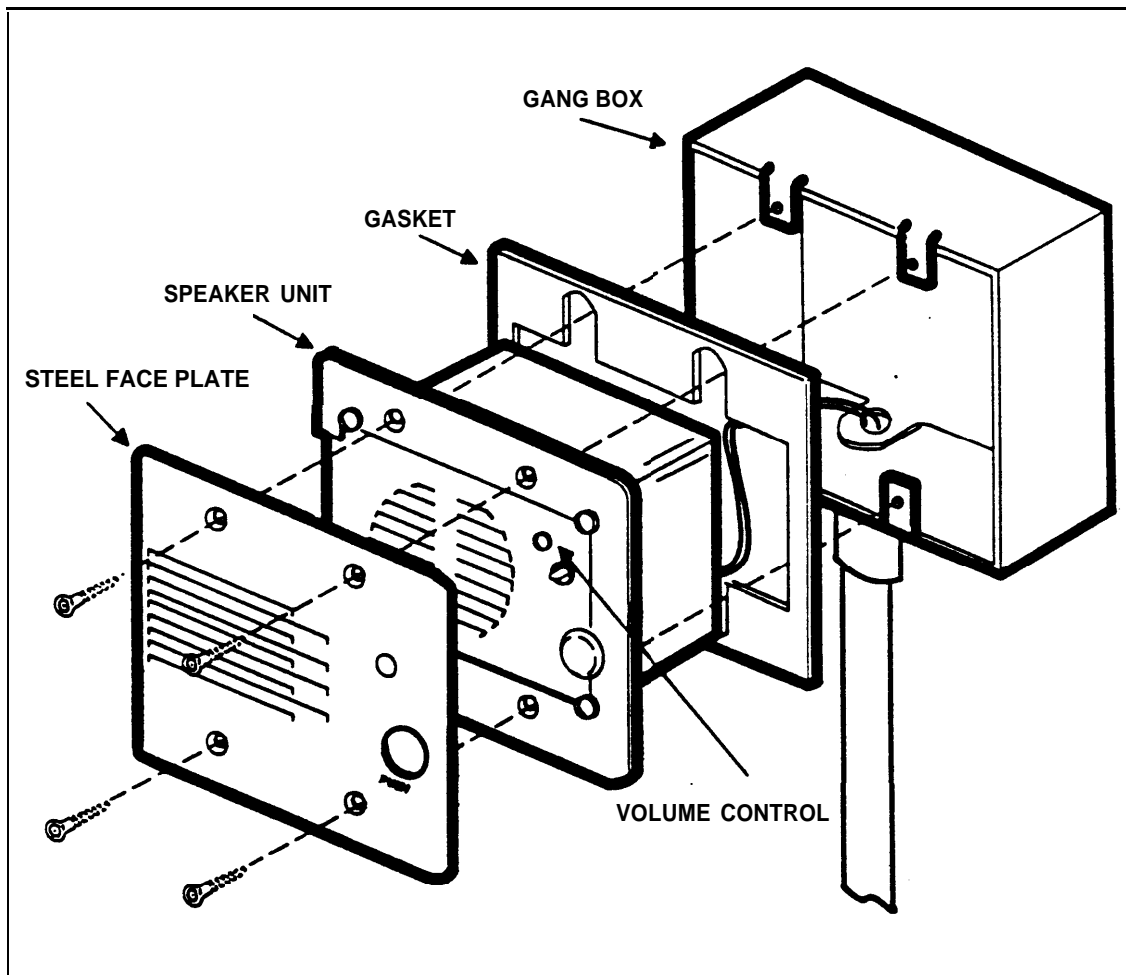

Figure 2-7. Attach PARTNER™ Plus Door Phone and Faceplate
8. Test the system by having an assistant call the designated extension number of the PARTNER™ Plus Door Phone. Adjust the speaker volume (Figure 2-7) to an appropriate level.
9. Secure PARTNER™ Plus Door Phone and faceplate to double-gang outlet box with four mounting screws (included) as shown in Figure 2-7.